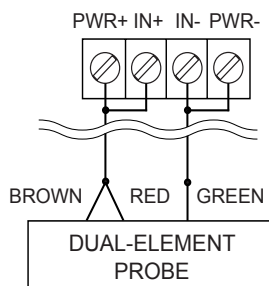

Figure C.2—Wiring diagram for two wire dual-element probe
- If two-conductor wiring is used to connect the TA-1000 Plus to a remote probe, a wire resistance compensation should also be applied to ensure accurate temperature measurements with the dual probe. See Appendix B—Wiring Recommendations for 2-Conductor Cable, Page B-1 for details and wire as shown in Figure C.2, Page C-1.